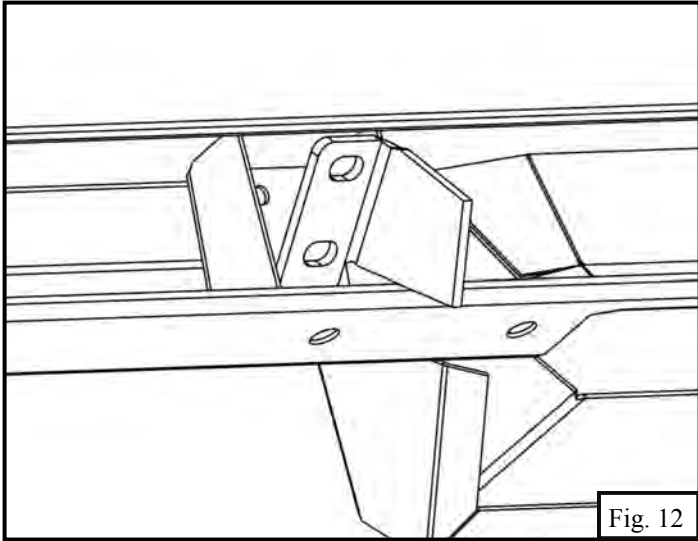

Fig. 12
10. Attach (item 4) to passenger front and passenger side center and rear mounting brackets to passenger center and rear using the same procedure as step 6.
12. When installing brackets to board, tilt at angle. See **Figure 12**.